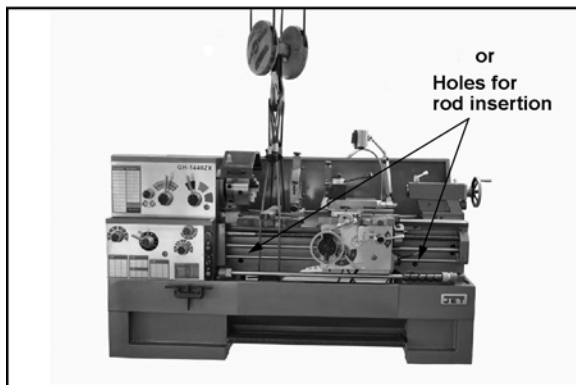

Figure 4: Lifting the lathe
6. Sling the lathe as shown in Figure 4; either below the bed at center of gravity area, or around steel rods or pipes of sufficient strength inserted through the holes in the bed casting. **Do not lift lathe by the spindle.** With adequate lifting equipment, slowly raise the lathe off the shipping pallet. Make sure lathe is balanced before moving.